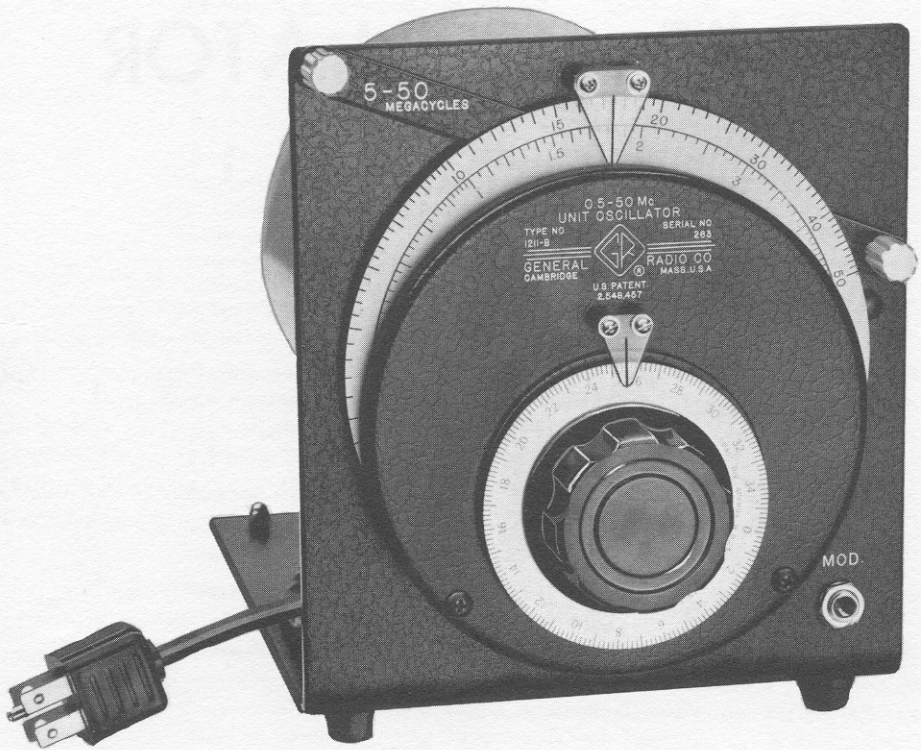

Figure 1. Panel View, Type 1211-B Unit Oscillator.
1.1 GENERAL. The Type 1211-B Unit Oscillator (Figure 1) is a small, shielded, general-purpose oscillator of moderate power output, covering the frequency range of 0.5 to 50 megacycles. It can be amplitude modulated from an external source. It is designed for operation with the Type 1203 Unit Power Supply, but it can be operated with any adequate power supply.